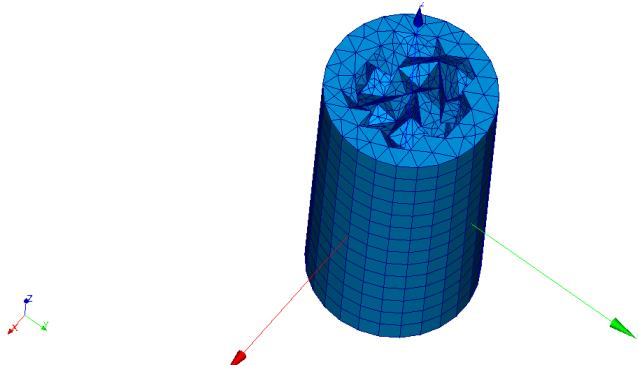

Figure II.14: Mesh of the interface region 1.
Having build the interface regions, they are now meshed using rectangular faces for the the rotating surface (R) and tetrahedral cells everywhere else. The resulting meshes are shown in Figs. II.14 and II.15 below.